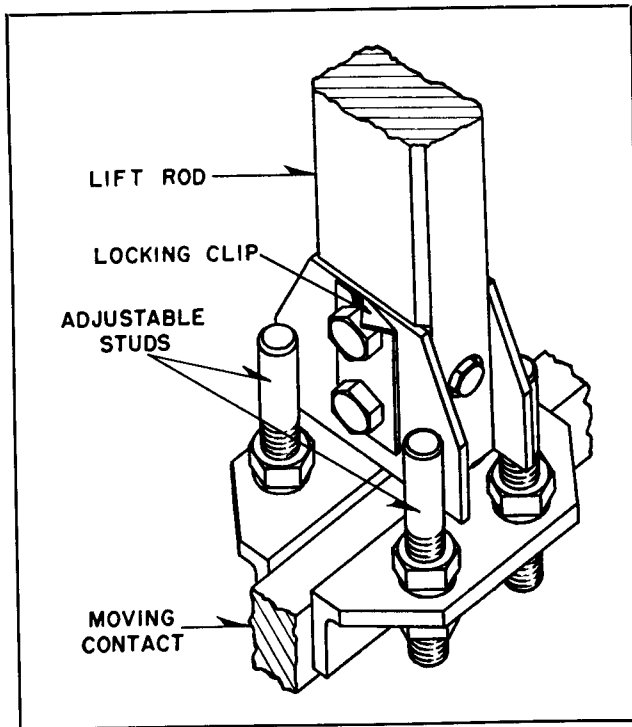

FIG. 14. Moving Contact Assembly
**Moving Contacts.** The U-shaped moving contact is fastened to the bottom of the lift rod by four sets of nuts and studs as shown in Fig. 14. These should be set so that the crossarm portion of the moving contact is horizontal and the upright portions lie in a vertical plane. This can be done